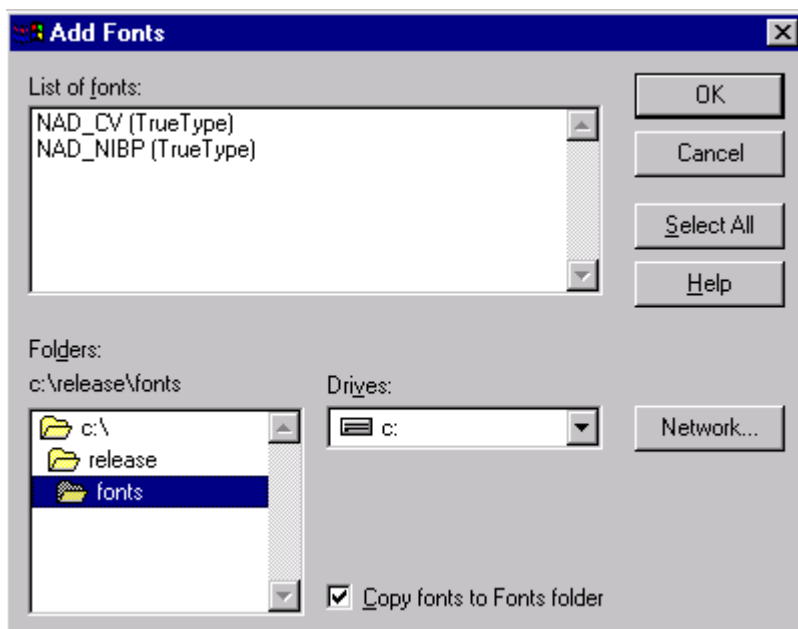

FIGURE 29. Add Fonts Dialog continued
8.54 While holding down the Shift button on the keyboard connected to the NM6000, select the fonts 'NAD_CV(TrueType)' and 'NAD_NIBP(TrueType)', then click OK. See Figure 29.